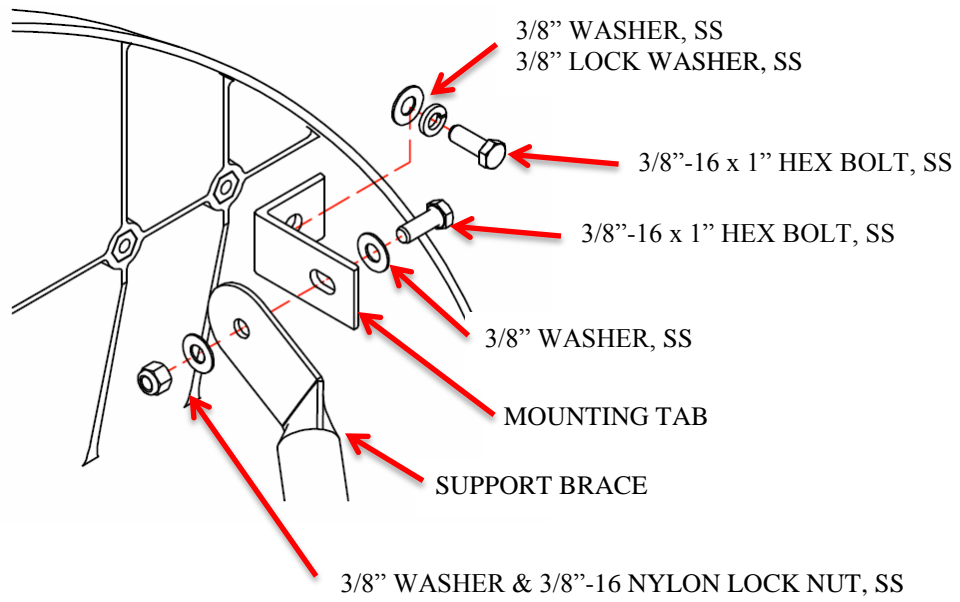

Figure 5
1. Attach the appropriate brace mounting bracket to the back of the backboard as shown in figure 5.